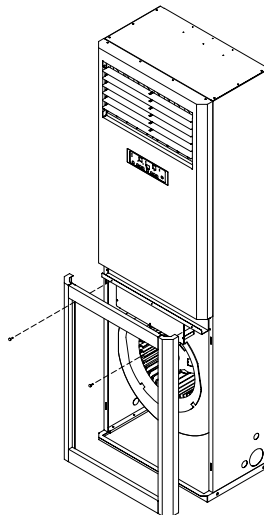

Figure 6
- 5.3 Unscrew at the bottom panel, pull forward and lift up to remove the panel. The electrical box will be on the left hand side, the drain and refrigerant lines will be on the right hand side when facing front (Figure 6).